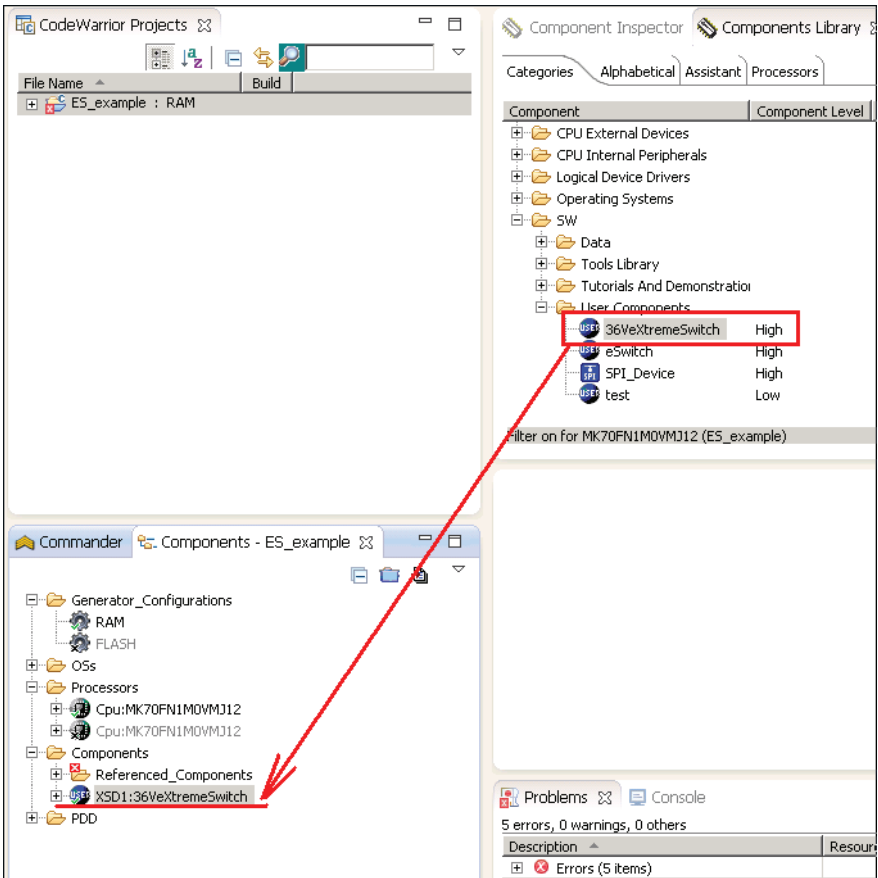

Figure 15. Import 36VeXtremeSwitch
- 1. Find 36VeXtremeSwitch in the Component Library and Import it into this project (see Figure 15).